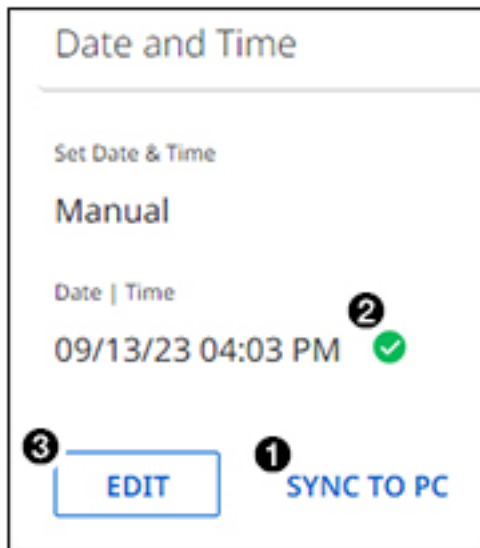

Figure 30. Syncing UCS Date and Time to the PC
Click the **SYNC TO PC** button (see figure 30, ①). (Clicking the **EDIT** button first is optional.)
1. In the Date and Time panel, click the **EDIT** button (see figure 30, **3** on page 51).